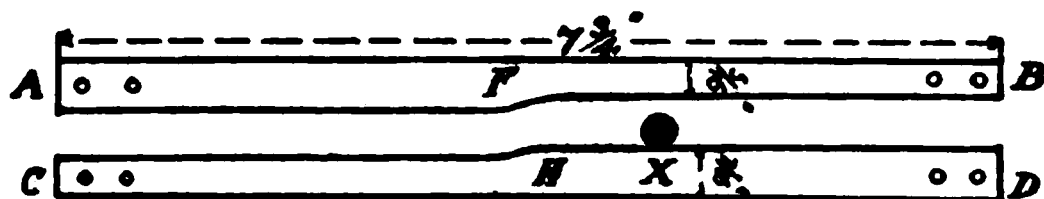
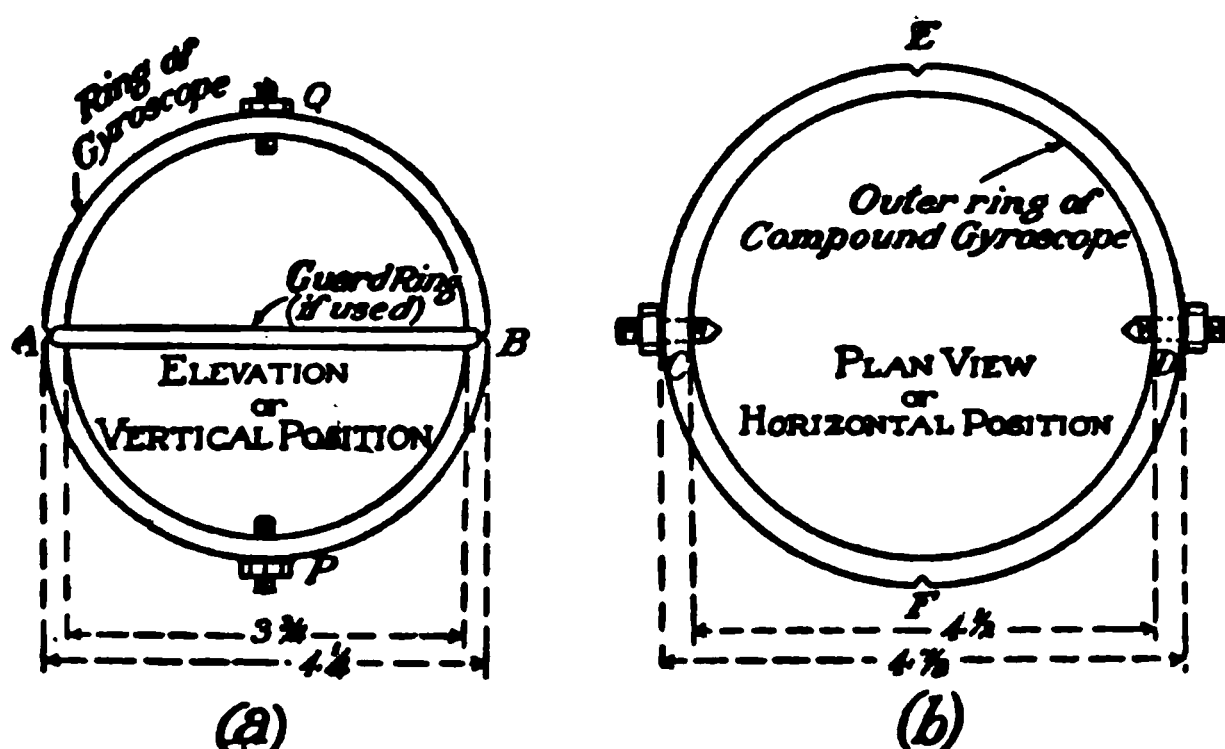

Fig. 75.—Contact planes for monorail car.
Fig. 77.—(a) inner and (b) outer rings of gyroscope.
The strips are shaped in a peculiar manner, as shown on a larger scale in Fig. 75. The inner edges are parallel, and set rather further apart than the thickness of the axle (seen end on, and indicated by a black circle). Furthermore, the left half of the edges is out of line with those of the right half to an extent rather less than the difference
A stop, E, on each side of the frame prevents the outer ring tilting laterally beyond very narrow limits. These limits are so arranged that the axle X (Fig. 75) touches CD only from H to D, and AB only from A to F. We may suppose X to be spinning in a clockwise direction, and, owing to the wheel-frame tilting, to precess towards the right. Immediately it passes H it comes into contact with HD, and hurries itself to the right. This hurrying-on of the precession causes the frame to come vertical again. Similarly, if the top were
Figs. 77 and 78 are detailed diagrams. The gyroscope axle is vertical, the inner ring is pivoted horizontally, and the outer also horizontally. The inner ring pivots are at right angles to those of the outer ring, the movements of which they limit by contact with an adjustable stop projecting up-
The disc axle runs in two pivots, Q and P (Fig. 77, a), each provided with a lock nut. At A and B, in a line at right angles to that joining Q and P, two nicks, A and B, are drilled to take the pivot points
This last should be, for lightness' sake, of iron or brass tubing. Its inside diameter is  $\frac{1}{4}$  in. greater than the outer diameter of the inner ring. At C and D holes are drilled to take pointed bolts, secured by lock nuts (Fig. 77, *b*); and nicks are made at E and F for suspension pivots, passing through the framework (Fig. 78, *b*) of the car.
*The Contact Planes.*—The contact planes AB and CD (Fig. 75) are made of thin iron or brass strip  $\frac{1}{16}$  in. or even less thick. The necessary curvature is given them by hammering them on what is intended to be their concave side. The end holes to take the screws or nuts which attach them to the framework should be a rather loose fit, to permit delicate final adjustment by tapping before the screw or nut is tightened up hard.
The following points should, however, be carefully borne in mind: the spinning axle *must* be capable of touching one contact plane from H onwards towards D and *not* from H towards C, and similarly with respect to the other contact plane (Fig. 75). This is accomplished by means of the double adjustable stops, the tops of which are just below the pivots at C and D in the outer ring (Fig. 77).
scopic ring or the nut and bolt Q (Fig. 77, *a*) with one hand, and hold it steadily in its central or normal position. Place the model as nearly upright as possible on the line and let go. Be sure to release Q when the gyroscopic axis is at the middle—that is, the central position of the controlling planes.